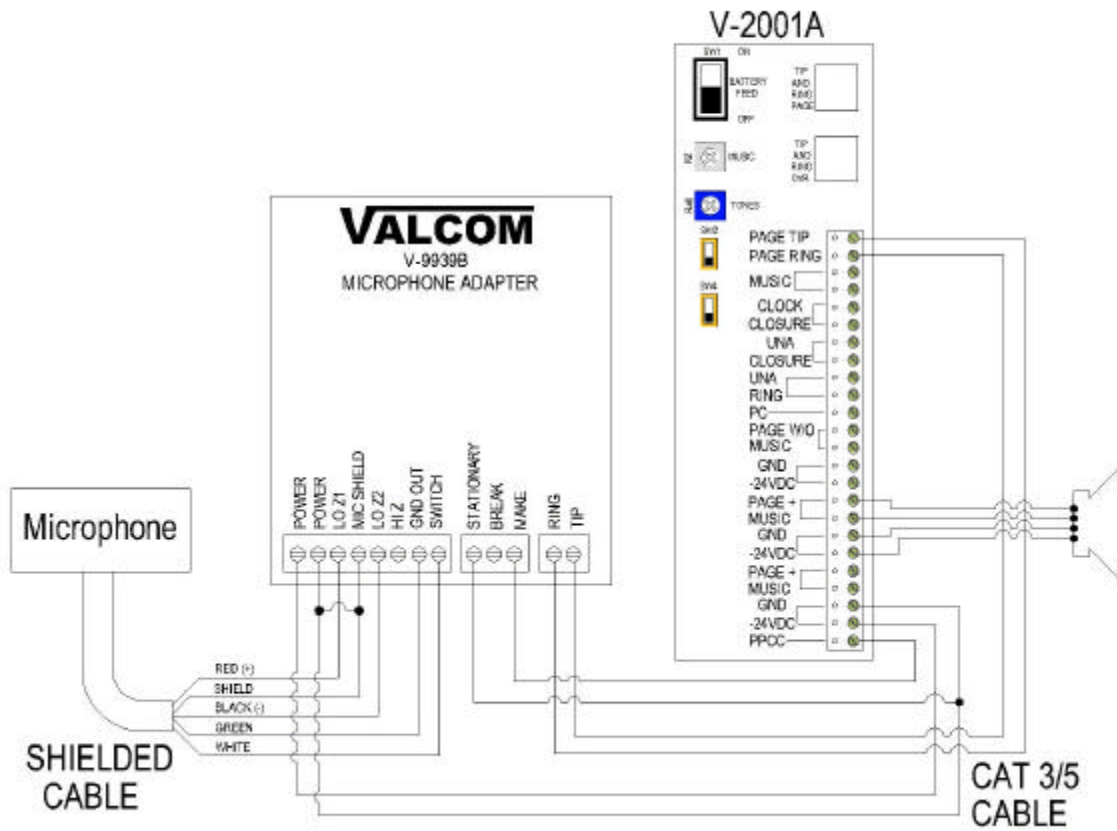

FIGURE 4 – OVERRIDE A SINGLE ZONE WITH A V-2001A
- ___2. Override an individual zone using a V-2001A: Proceed to Figure 4.
WIRING INSTRUCTIONS (For Figure 4)
4. No output from V-2001A.	Recheck all connections per Figure 4. Make sure the V-2001A passes the power test in Figure 4, step 16.